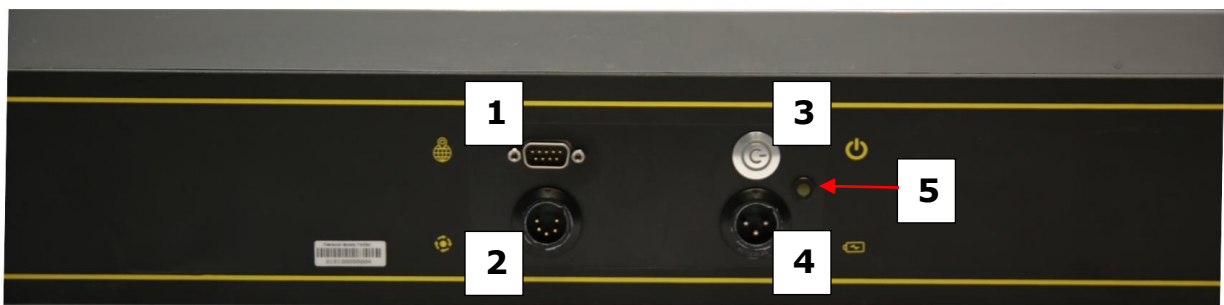

Figure 2-11: Labelled items on the PDP sensor. 1) GPS port 2) Odometer port 3) Power button 4) Battery charger port 5) Battery charge indicator
Plug the battery charger into port #4 in Figure 2-11. Before using the PDP system for the first time, the battery should be charged for at least 4 hours, so it is fully charged. The charge indicator (#5 in Figure 2-11) will light up when charging and turn off when it's done.
1. Connect the serial port end of the GPS cable into port #1 in Figure 2-11
2. Connect the odometer cable into port #2 in Figure 2-11
When ready, press the Power button (label #3 in Figure 2-11) to power up the PDP sensor. The light on the button will turn on and remain on while the PDP sensor is powered up. Turn on the tablet and, from the main screen, double-click the PDP